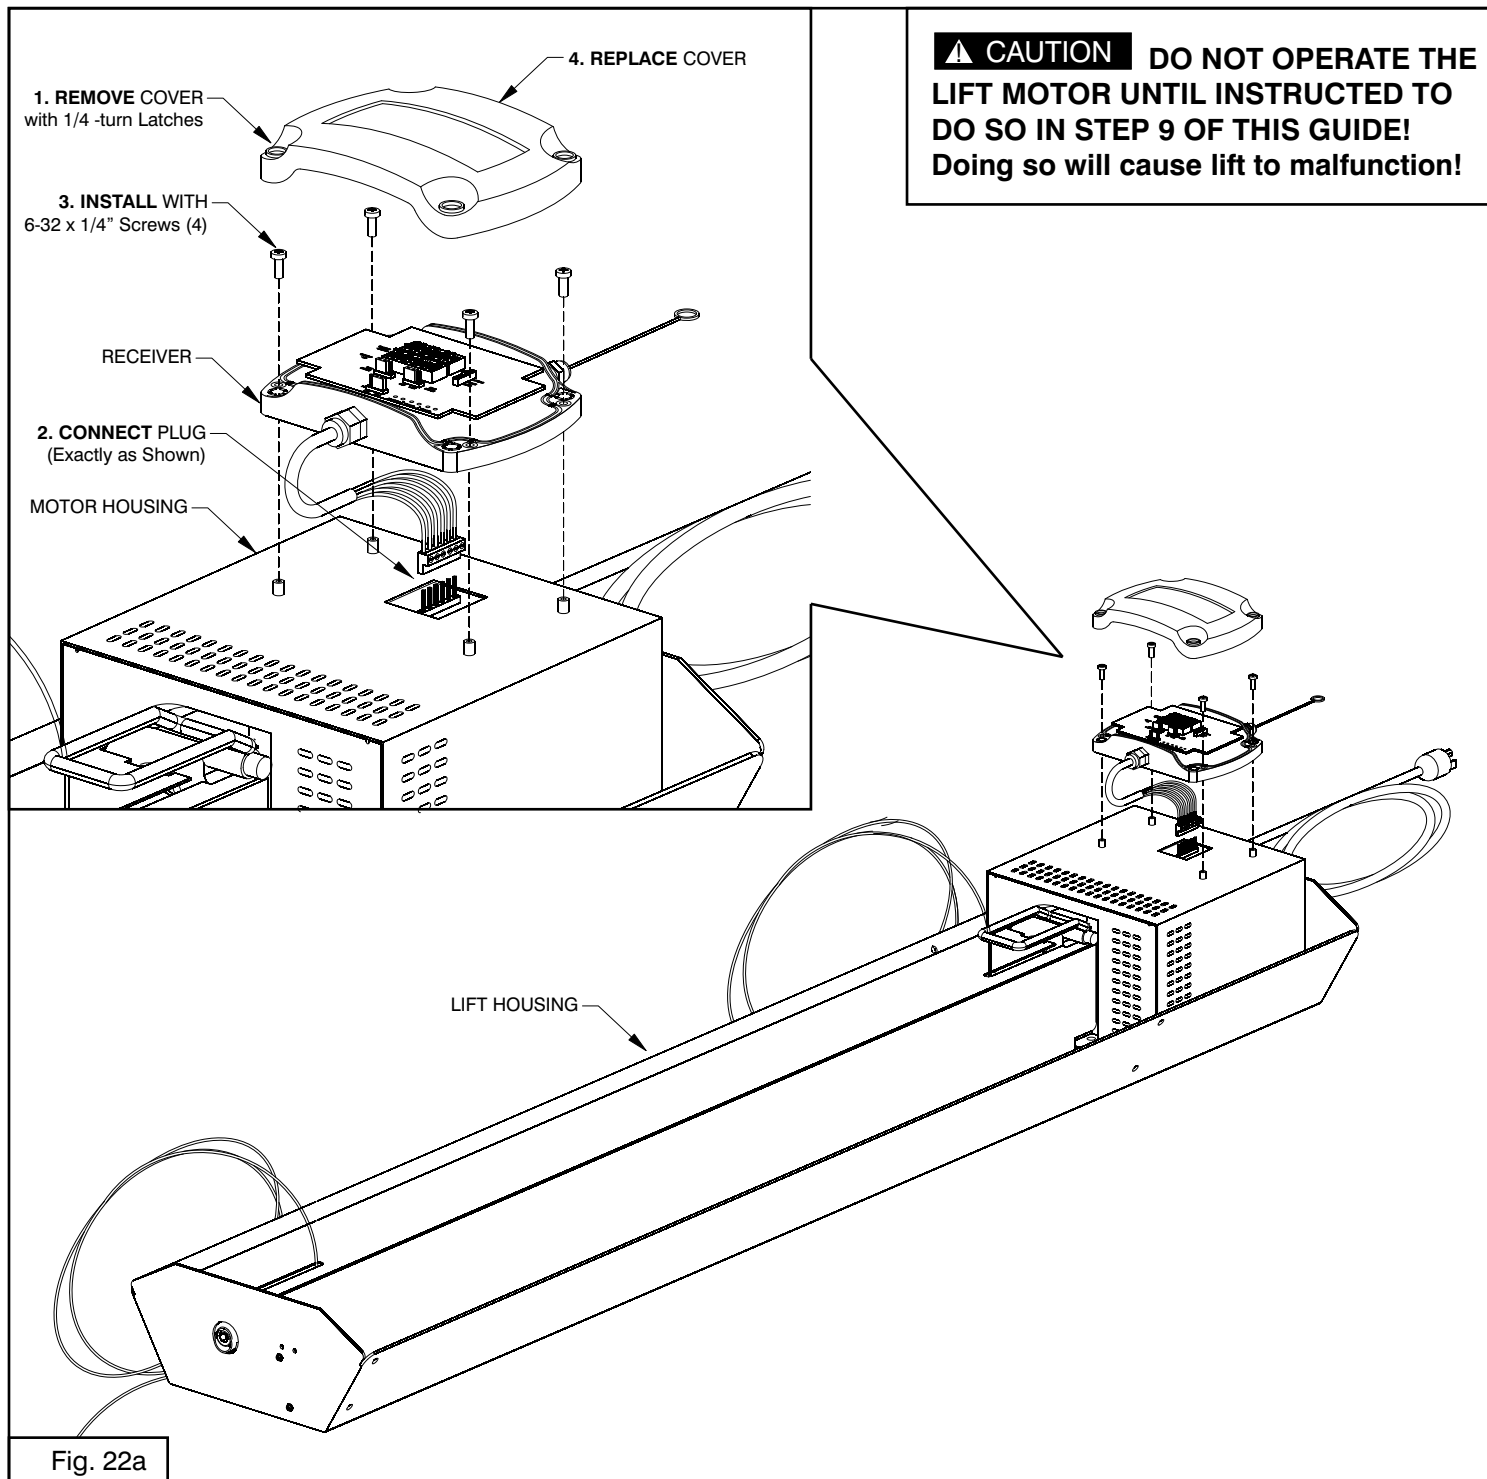

Fig. 22a
- 26. 2 x 2" x 20" "L" Flashing (4)
- 27. Short Chains (2)
- 28. Long Chains (2)
- 29. Installation Guide (1)
- 30. Owners Manual (1)
- 31. Door Panel (1)
- 32. Platform Panel (1)
**This step requires two persons.** This assembly step should be done in the attic. Locate the parts shown below and move them up to the attic. The lift housing is heavy and requires 2 able persons to move it up to the attic. Place the lift housing on a rug or piece of cardboard open-side-up as show below in Fig. 22a.
flat-tip screwdriver (Fig. 22a inset).